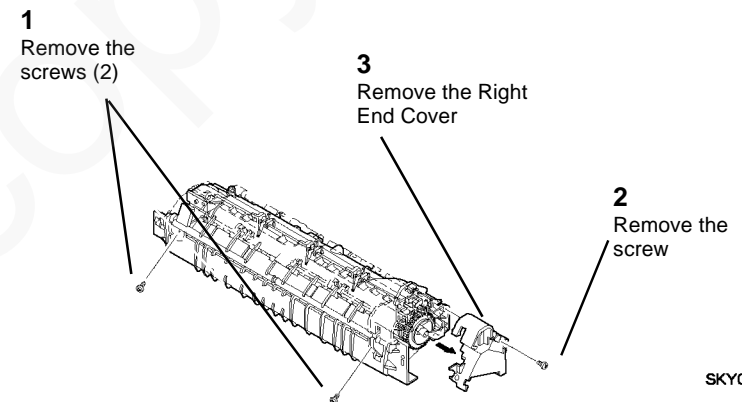

Figure 1 Removing the Right End Cover
5. (Figure 1): Remove the Right End Cover.